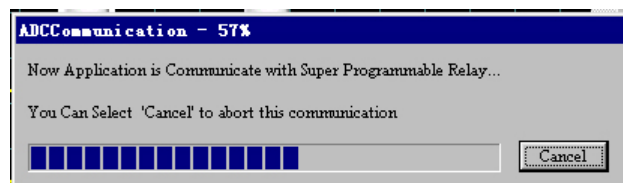

Fig 4.24 Update Program Process
d. Click button “OK” with left button of mouse, start update Program, dialog box shown as fig 4.24 display update Program course.